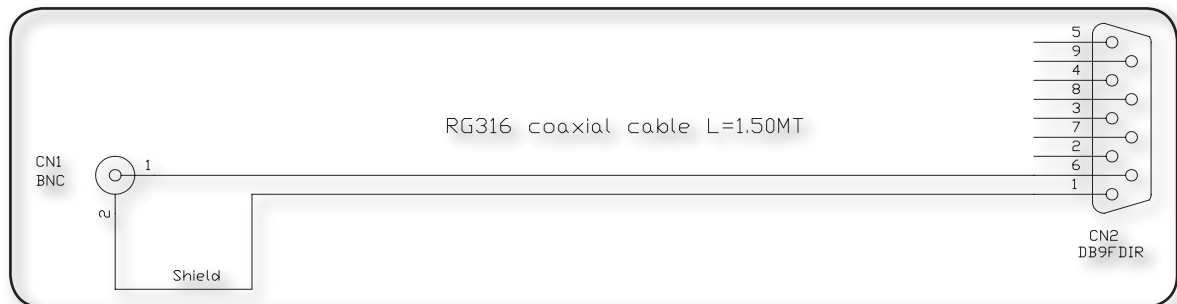

Figure 5.2
**Note :** in the following figure is shown the diagram of cable when connecting equipment of R.V.R. Elettronica like the PTX-LCD with SFN option (Figure 5.2).